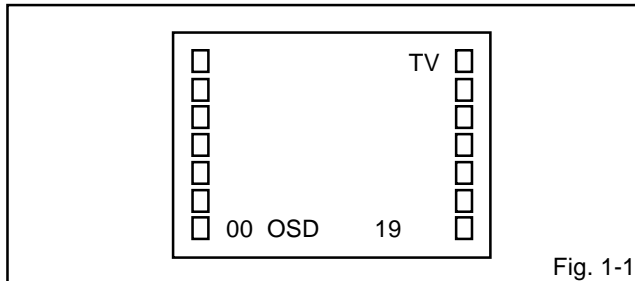

Fig. 1-1
1. In the condition of NO indication on the screen. Press the VOL. DOWN button on the set and the Channel button **(9)** on the remote control for more than 2 seconds to appear the adjustment mode on the screen as shown in **Fig. 1-1**.
3. Activate the adjustment mode display of **Fig. 1-1** and press the channel button **(01)** on the remote control to select "CUT OFF".
4. Activate the adjustment mode display of **Fig. 1-1** and press the channel button **(10)** on the remote control to select "R.BIAS".
3. Activate the adjustment mode display of **Fig. 1-1** and press the channel button **(22)** on the remote control to select "TINT".
6. Activate the adjustment mode display of **Fig. 1-1** and press the channel button **(19)** on the remote control to select "COL.CENT".